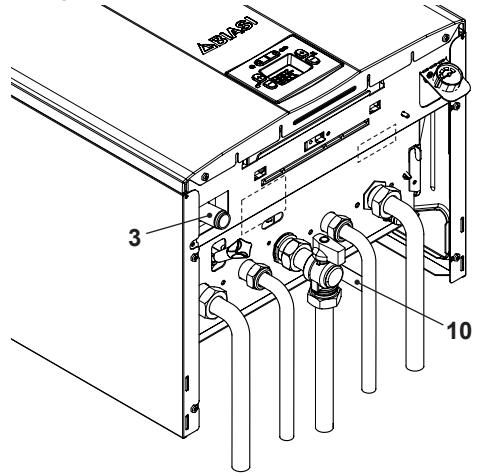

Figure 5.4
- Connect the safety valve discharge 10 (Figure 5.4) to an outlet funnel.
- Connect the condensate outlet pipe 3 (Figure 5.4) inside the residential condensate outlet duct or the safety valve outlet funnel if the outlet is resistant to acid condensate.